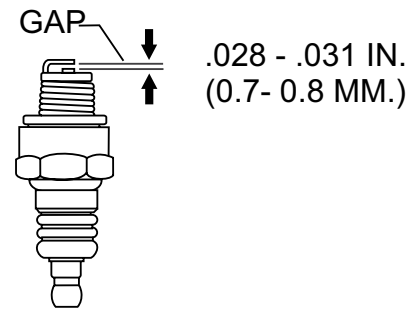

Figure 44. Spark Plug Gap
1. Remove and clean spark plug (Figure 44) with a wire brush if it is to be reused. Discard spark plug if the insulator is cracked or chipped.